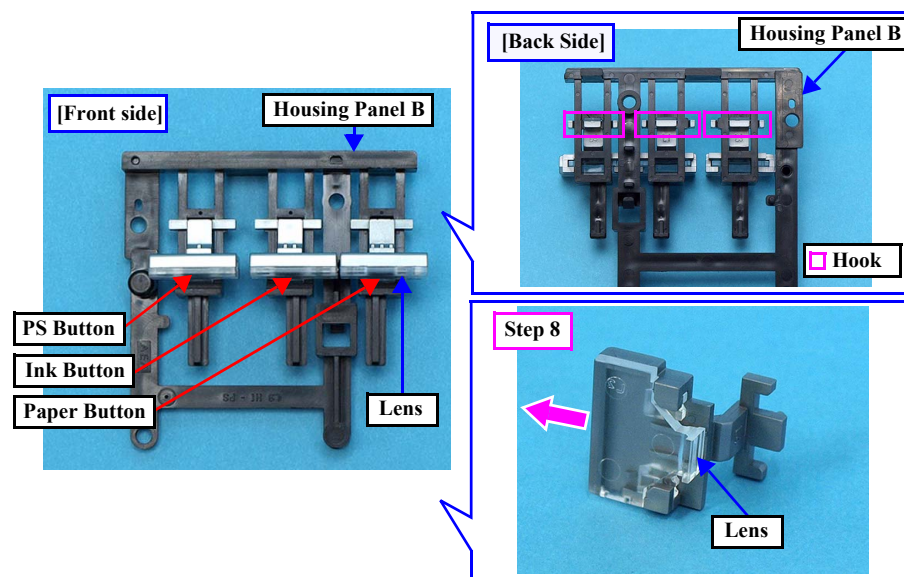

Figure 4-123. Removing the Panel Board / Buttons (4)
- Install the PS button, Ink button, and Paper button as shown in Fig.4-123.